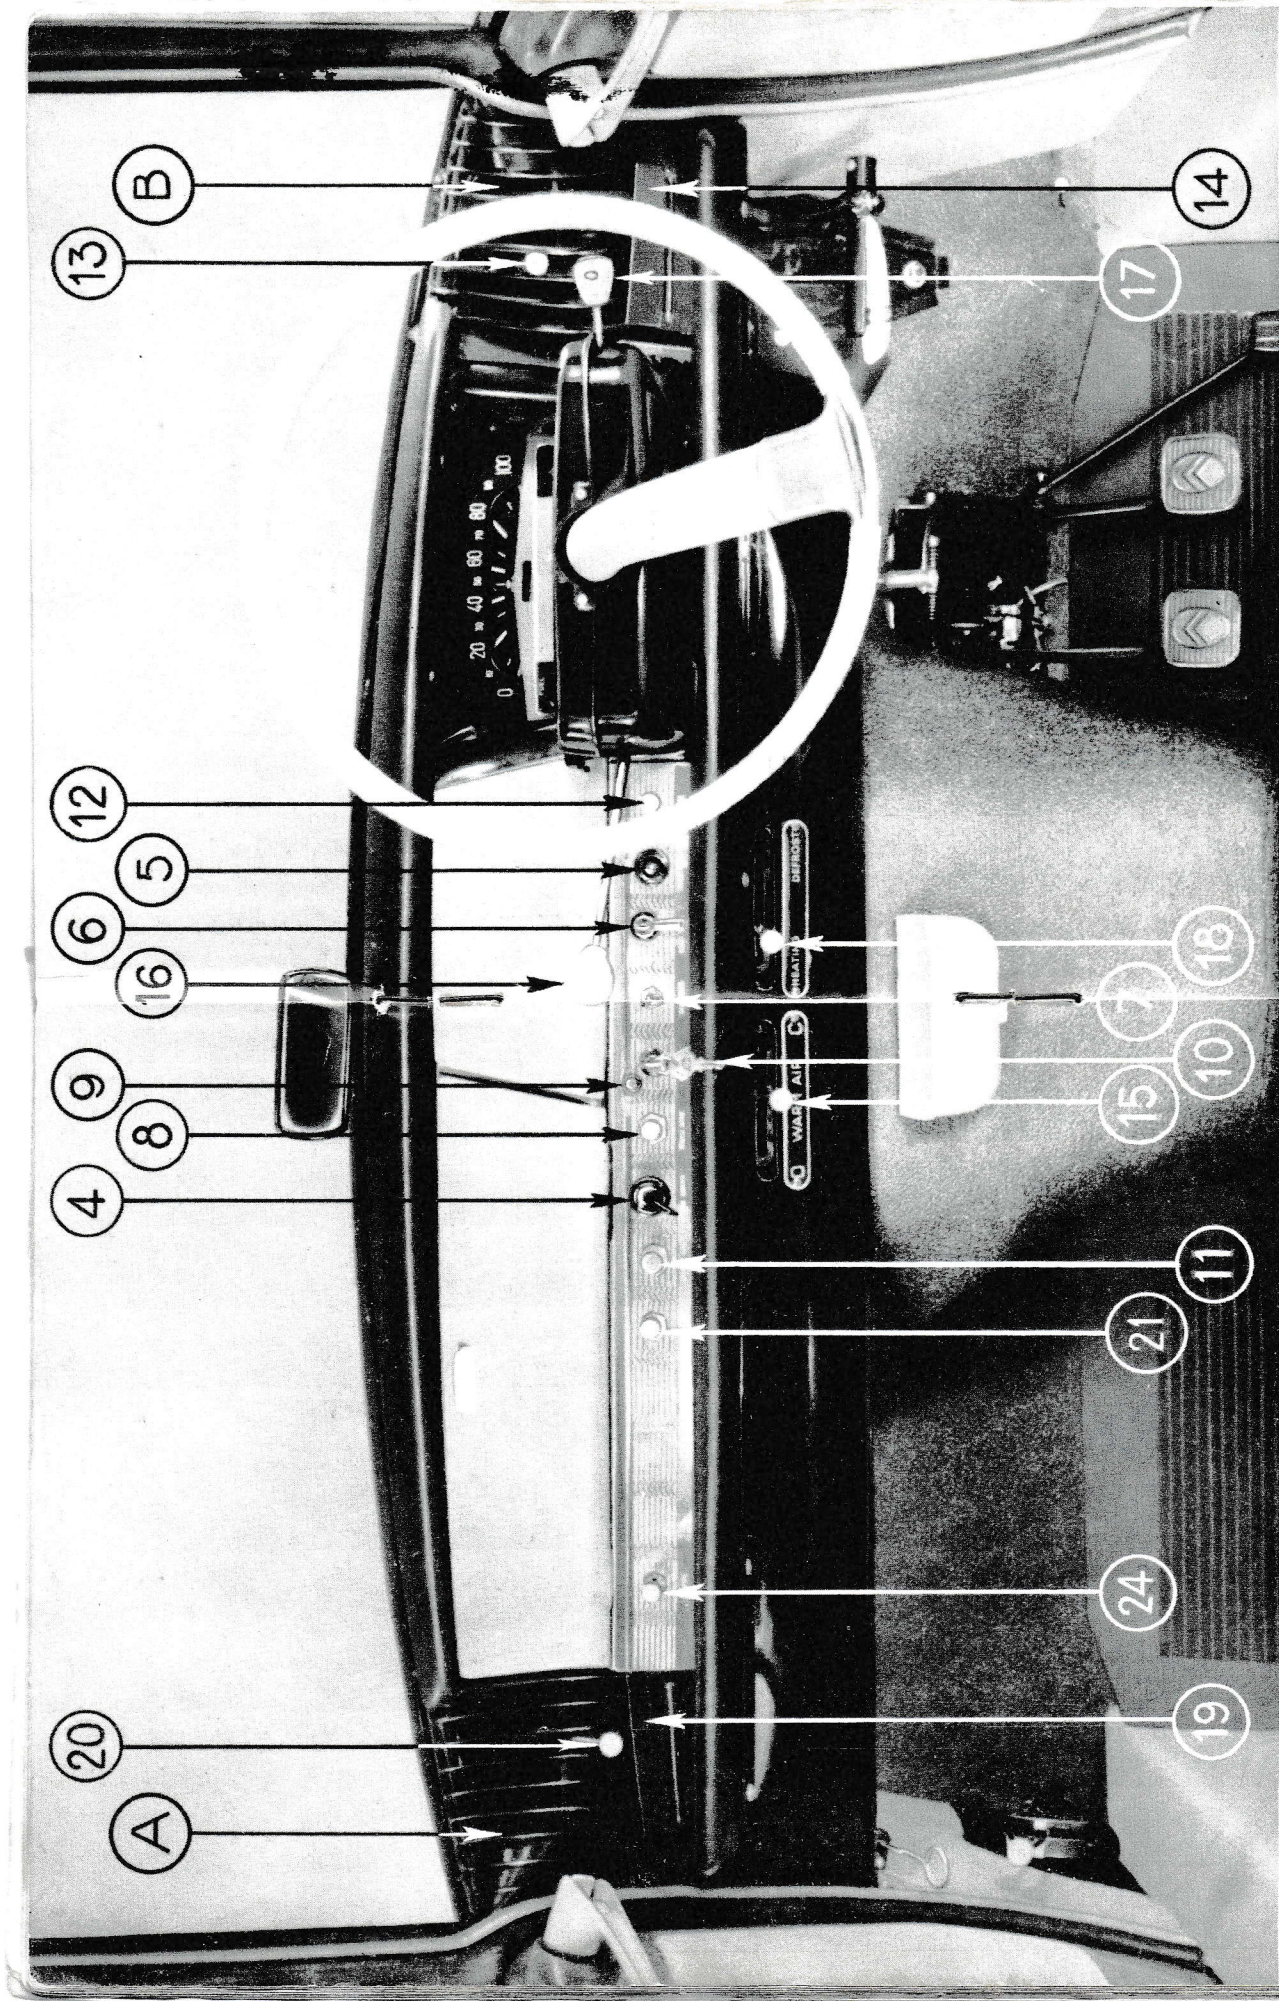

Figure 15 — Dashboard (see pages 9 and 10)
4. Manual ignition timing control (fig. 15).
5. Battery charge light (fig. 15). **1**
6. Direction indicator control with flashing repeater light (fig. 15).
7. Instrument panel lighting rheostat (operates only when contact is " on " ) (fig. 15).
8. Electric windshield wiper control (operates only when contact is " on " ) (fig. 15).
9. Starter relay push-button (fig. 15).
10. Ignition switch (fig. 15). (1)
11. Interior light switch (fig. 15).
12. Choke control (fig. 15).
13. and 20. Knob for the side ventilation shutters (fig. 15).
14. and 19. Deflectors to direct incoming air as required (fig. 15).
15. Heater control. Closed position on the right. To increase heating, push the knob to the left (fig. 15).
- 18. Warm air distribution control for heating and defrosting. (see page 30) (fig. 15).
- 21. Windshield washer control. To spray water on the windshield push the knob in (fig. 15).
- 24. Parking light switch (fig. 15).
Fresh air is blown into the car through two grills A and B (fig. 15) on the right and left of the dashboard.